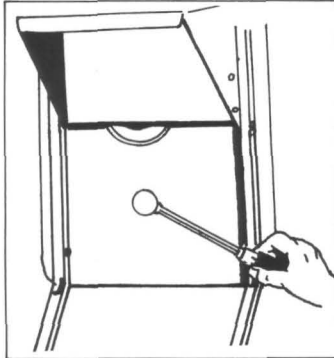

Fig. 1
- A. Remove one plug from Grinder/Chipper Main Frame as shown in Figure 1